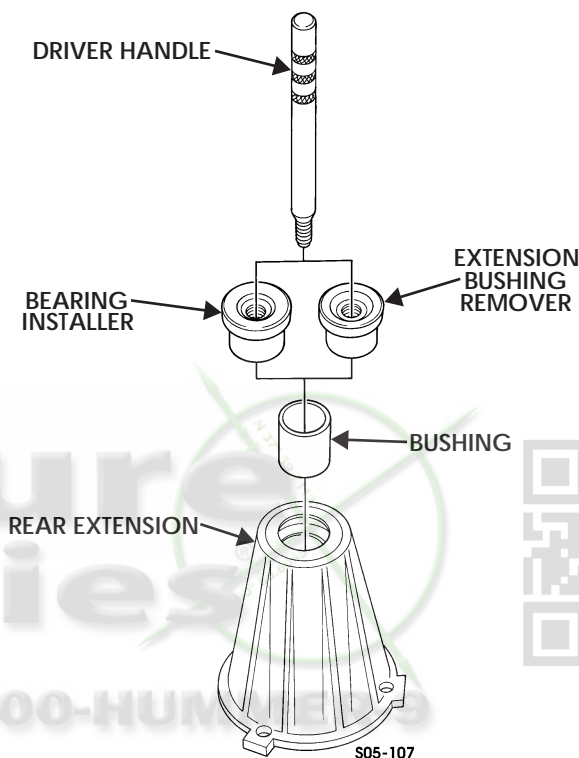

Figure 5-160: Extension Bushing
1. Inspect rear extension and bushing. Replace if damaged or worn (Figure 5-160).